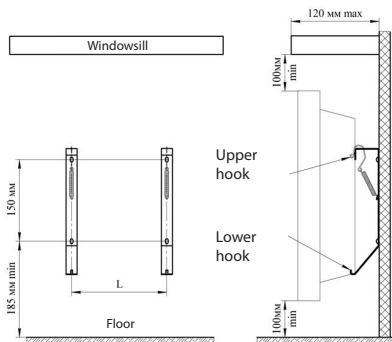

Fig. 1
**5.4** For stationary installation of the convector, mark the mounting holes on the wall, referring to Figure 1 and Table 2. Fix the brackets for installing the convector in any way possible, ensuring their reliable fastening during the entire life of the convector.
Align the rectangular holes on the back of the convector with the upper hooks (Fig. 1) of the brackets and put the convector on the hooks.